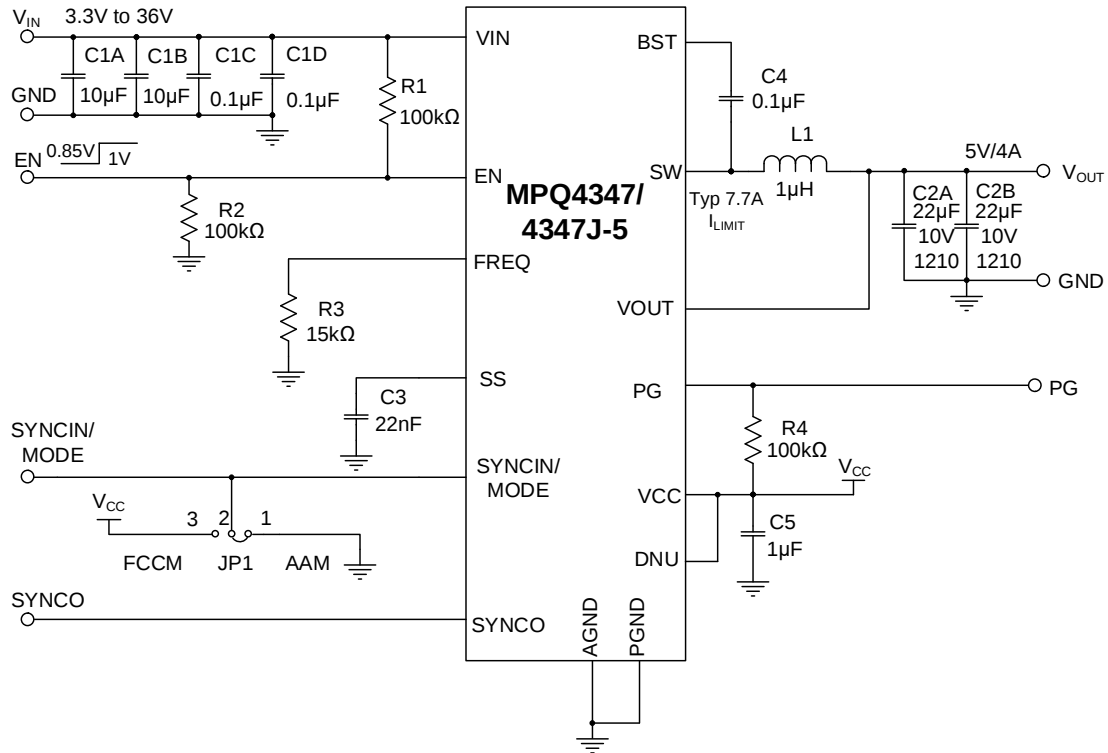

Figure 9: Typical Application Circuit ($V_{OUT} = 5V$, $f_{sw} = 2.2MHz$)
12) The recommended PCB layout is based on Figure 9 on page 46.